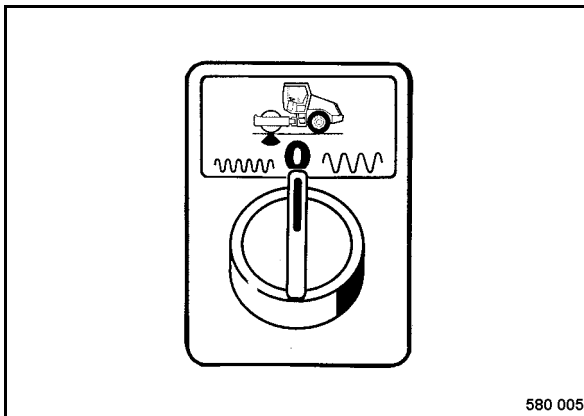

Fig. 27
- Turn the rotary vibration selector switch (Fig. 27) to position "0", vibration off.